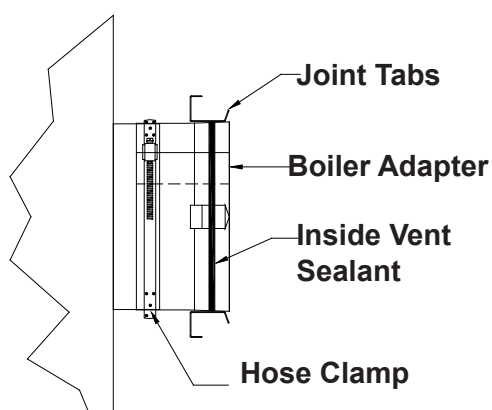

Figure 4
3. Apply a 1/4" bead of sealant to the inside of the female end of the boiler adapter, 3/4" from the edge, *figure 4*. Make a continuous, straight-line bead, not a zig-zag pattern when applying the sealant.